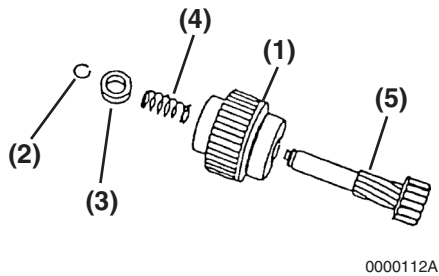

Figure 11-27
1. Apply appropriate starter bendix grease (obtain locally) to the pinion shaft. Reassemble the pinion shaft (**Figure 11-27, (5)**), pinion clutch assembly (**Figure 11-27, (1)**), return spring (**Figure 11-27, (4)**) and pinion stop (**Figure 11-27, (3)**). Reinstall the retaining ring (**Figure 11-27, (2)**) in the groove in the pinion shaft. Slide the piston stop over the retaining ring.